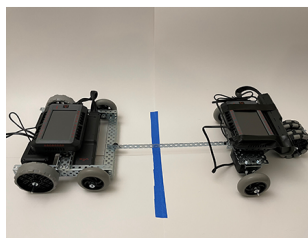

Figure 3. Example Tug-of-War Competition Setup
- Position the midpoint of the steel bar perpendicular to the midpoint of the tug-of-war centerline (shown in Figure 3).